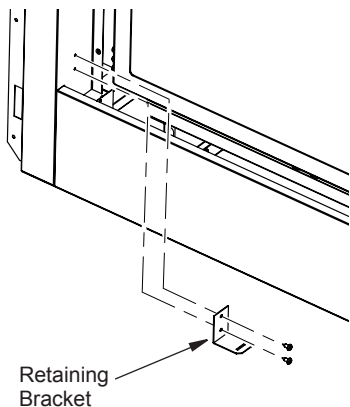

Figure 4 - Installing Access Door Retaining Brackets for See-Thru Applications
1. Screw access door retaining brackets into the inner side face using 2 screws on both the left and right side as shown in Figure 4.